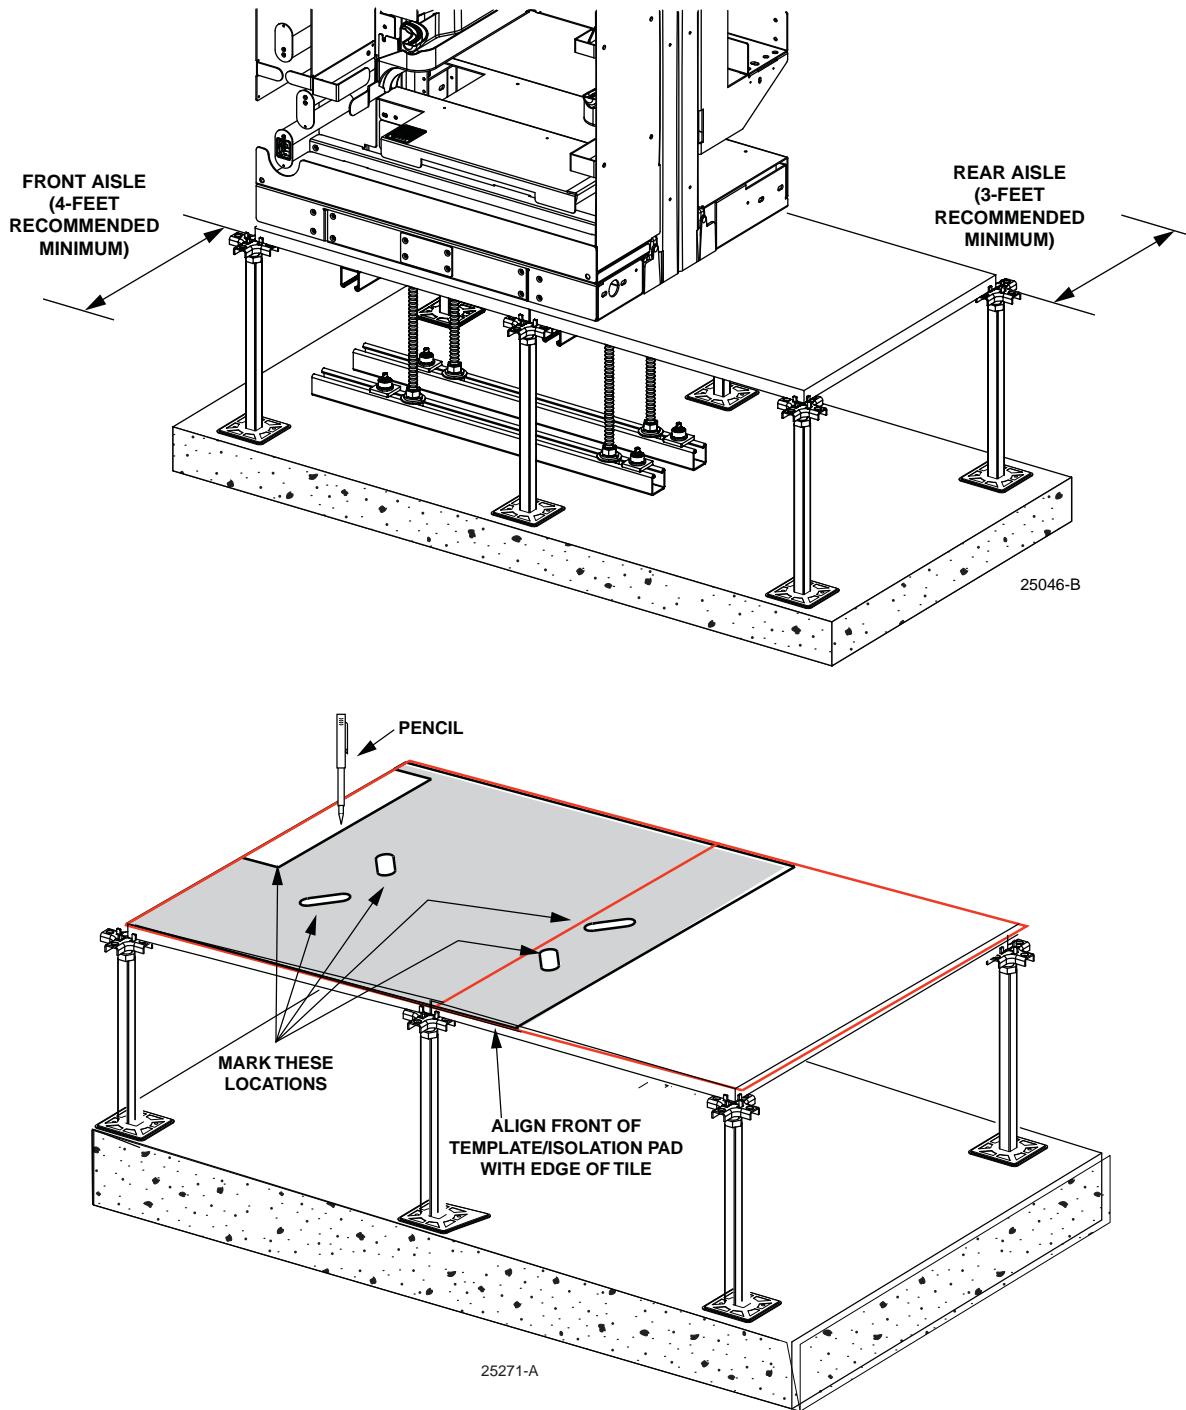

Figure 4. Determining Frame Location
3. Determine the frame location taking note of the clearance requirements shown in Figure 4. Place the optional template/isolation pad on the floor tiles and mark the tile as shown. If installing without a template, refer to Section 2 on Page 6 for installation dimensions.